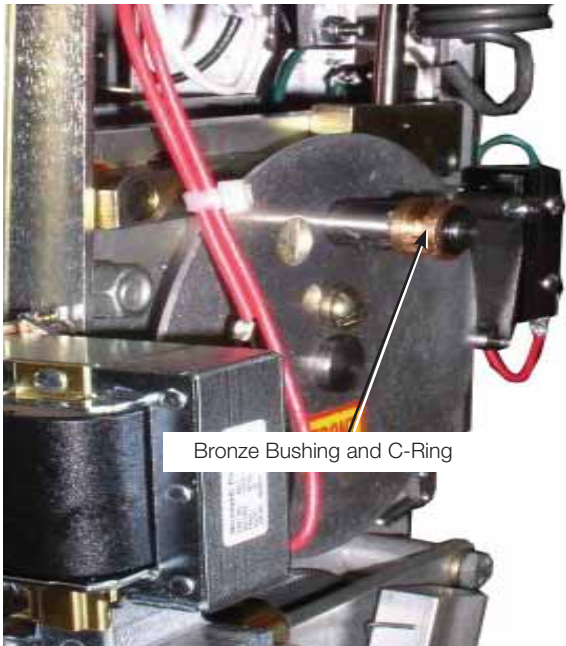

Figure 42.
- r. Install new bronze bushing on VR-68 pin. Secure with new C-ring. Refer to Figure 42.